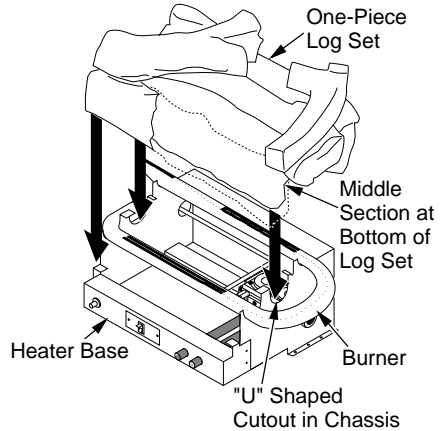
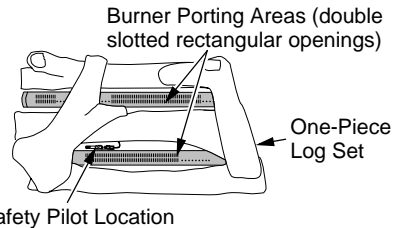

Figure 12 - Installing One-Piece Stove Log Set
Figure 13 - Top View of One-Piece Log Set on Gas Log Heater
4. Set one-piece log on heater base as shown in Figure 12. Make sure middle section at bottom of log is seated into "U" shaped cutout in center of heater base. Log will fit securely on base. **IMPORTANT:** Make sure log does not cover any burner ports and does not touch the stove cavity (see Figure 13).
5. Fasten back panel to stove with four (4) M6 x 1 bolts and washers.
- With control knob pressed in, press and release ignitor button. This will light pilot. The pilot is attached to the front burner (see Figure 13, page 11). If needed, keep pressing ignitor button until pilot lights.